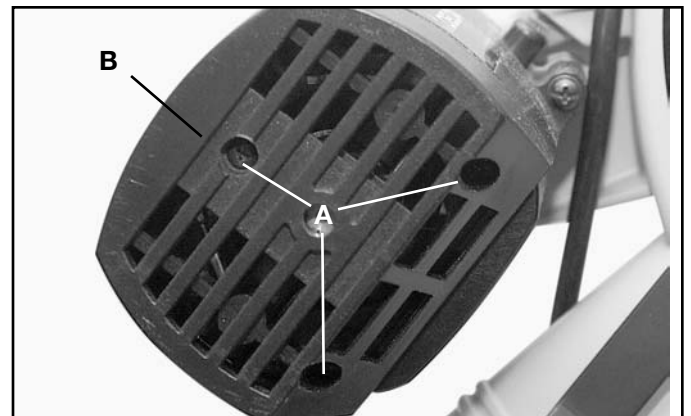

Fig. 49
1. Remove three screws (A) Fig. 49, and remove motor cover (B).